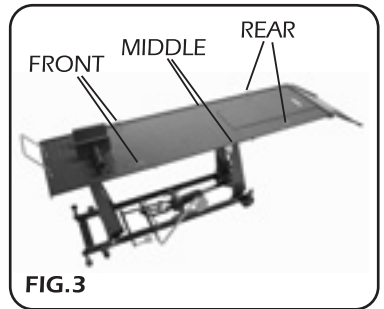

FIG. 3
**5.2 TIE DOWN POINTS (Figs.3&4):**